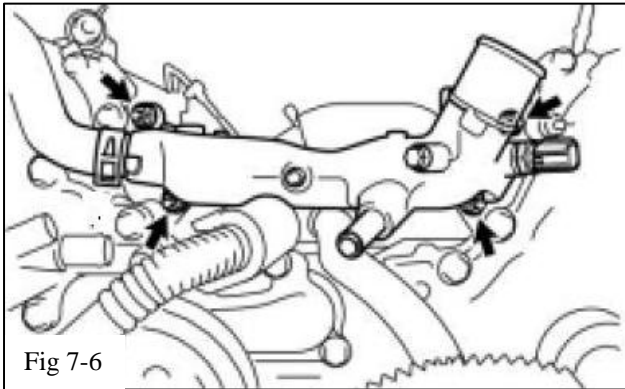

Fig 7-6
- (h) Remove the 4 nuts, front water by-pass joint and 2 gaskets (Fig 7-6). Retain the nuts and gaskets. Discard the water by-pass joint. Clean the gaskets and mating surfaces on the engine.